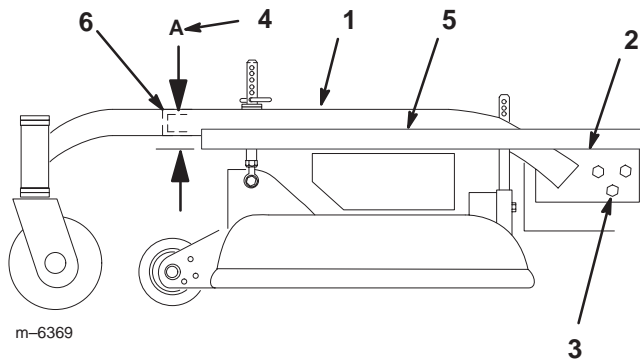

Figure 60
4. At the carrier frame cross tube, measure location **A** height (Fig. 60). This measurement must be 1–5/16 inch (33 mm), plus or minus a 1/4 inch (6 mm).
6. Loosen the carrier frame mounting bolts on both sides of the machine (Fig. 60).
7. Align the carrier frame and engine deck to match 1–5/16 inch (33 mm), plus or minus a 1/4 inch (6 mm) at location **A** (Fig. 60).
3. Place a long straight edge on top of the engine deck as shown in figure 60.